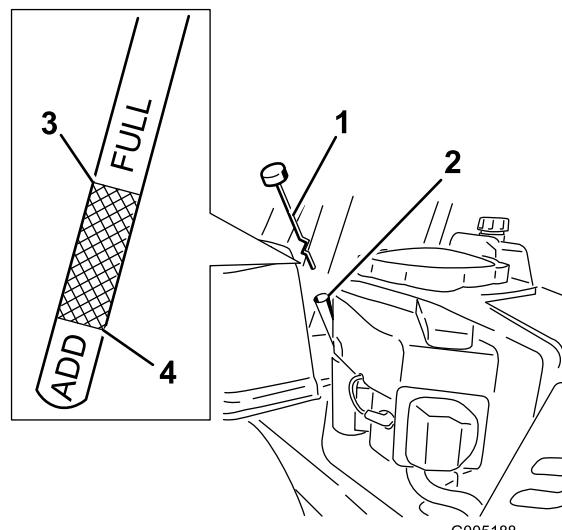

Figure 29
4. Pull and remove the oil fill cap/dipstick; wipe oil off. Reinsert the dipstick and push firmly into place (Figure 29).
5. Pull the dipstick out and check the oil level. (Figure 29).
8. Remove the oil fill cap/dipstick (Figure 29).
14. Slowly pour approximately 80% of the specified oil into the filler tube (Figure 29).
15. Install the oil fill cap/dipstick (Figure 29).
16. Check the oil level (Figure 29); refer to Checking the Oil Level.
18. Install the oil fill cap/dipstick and screw tight (Figure 29).